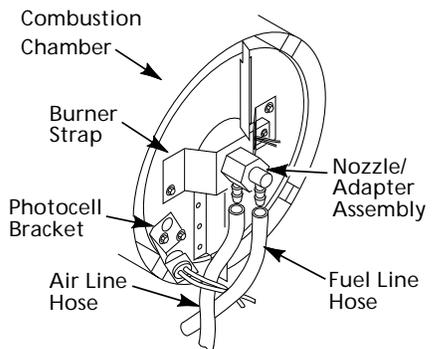
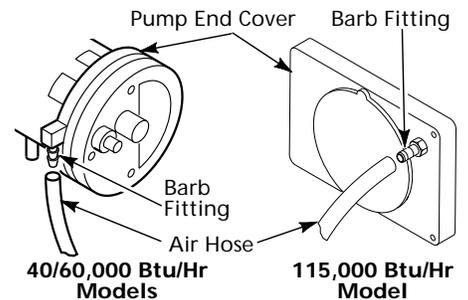

Figure 18 - Removing Air and Fuel Line Hoses, (40, and 60,000 Btu/Hr Models Only)
Figure 23 - Air Hose to Barb Fitting
14. Replace photocell in photocell bracket. Route wires as shown in Figure 18, 19, or 20.
3. Remove fuel and air line hoses from nozzle assembly (See Figure 18, 19, or 20).
4. Inspect fuel and air line hoses for cracks and/or holes. If fuel line hose is damaged, disconnect from nozzle adapter (see Figure 18, 19, or 20) and from fuel filter (see page 7). If air line hose is damaged, disconnect from nozzle adapter (see Figure 18, 19, or 20) and from barb fitting on pump end cover (see Figure 23).
5. Install new air and/or fuel line. Attach one end of air line hose to barb fitting on pump end cover (see Figure 23) and the other end to nozzle adapter (see Figure 18, 19, or 20). Attach one end of fuel line hose to fuel filter (see page 7) and the other end to nozzle adapter (see Figure 18, 19, or 20). **Note:** Route hoses as shown in Figure 18, 19, or 20 according to Model. Hoses are not to touch photocell bracket.